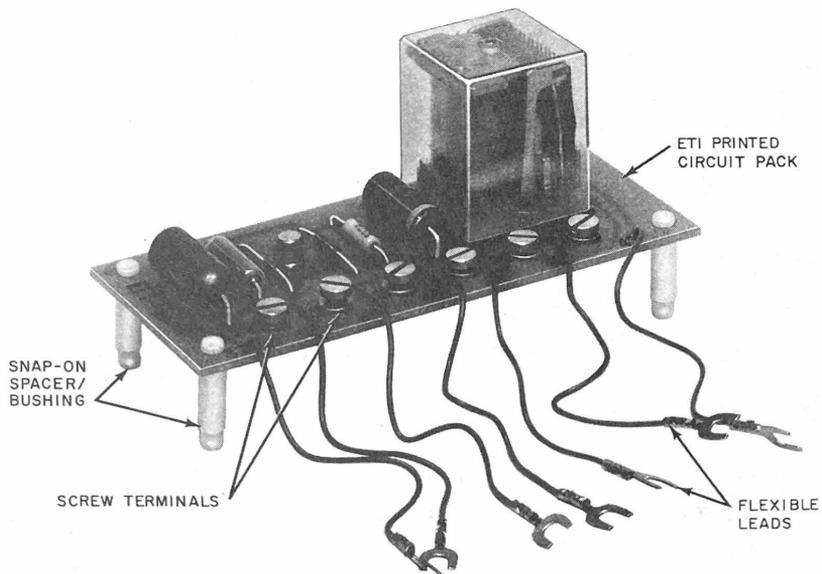

Fig. 12—ET1 Circuit Pack
3.04 Installation of the DAS 830B-L1A, ET1 circuit pack (Fig. 12), and EC 833 break detection